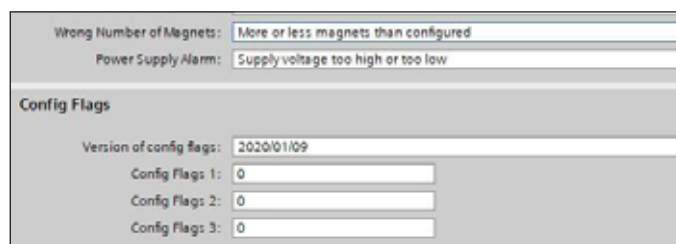

Fig. 57: Config Flags – Encoder profile
- **Accepting negative preset values:** You can use the "Config Flags 1" entry to set that negative preset values are also accepted in addition to positive preset values. You can adjust this in the module parameters of the module "standard parameters" in the "Config Flags" section (Fig. 57). You can set the following values for bit 2 of the "Config Flags 1" entry:
- **Setting the parameter P65005:** You can use the "Config Flags 1" entry to set how to change the parameter P65005. You can adjust this in the module parameters of the module "standard parameters" in the "Config Flag" section (Fig. 57). You can set the following values for bit 3 of the "Config Flags 1" entry: